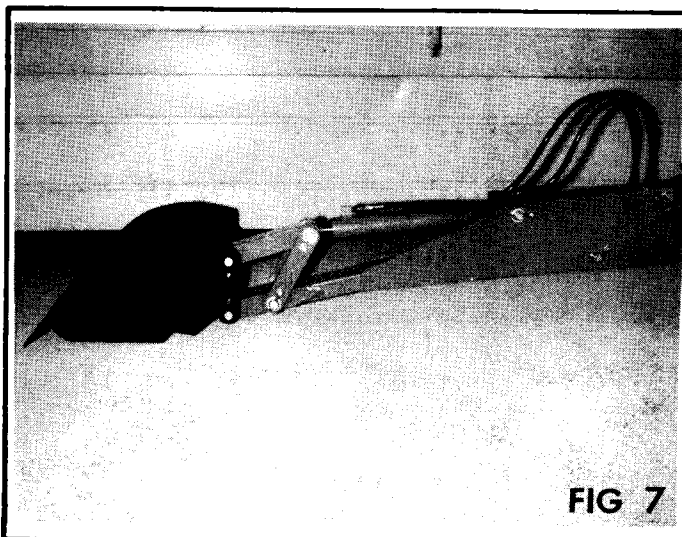

FIG 7
3. Stretch out the boom, dipper arm, and bucket, as shown in Fig 7 and 8. Lower the bucket to the ground so that it rests there solidly.
4. Place suitable blocking under the backhoe frame to support it adequately, as shown in Fig 7 and 8.
6. Gently lower the backhoe onto the blocking as shown in Fig 7 and 8. Leave the stabilizers outstretched and firmly in contact with the ground for added stability.